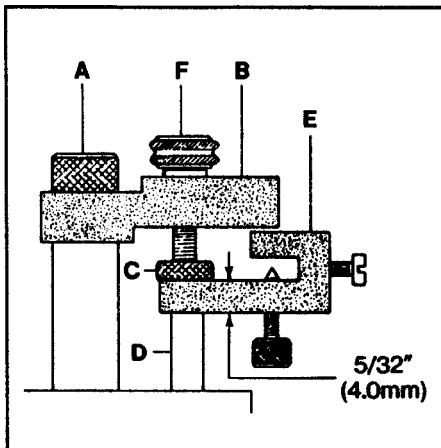

FIG. 8
Turn the handwheel until the needle bar is at its lowest point. Loosen presser bar regulating screw (A, Fig. 8) and insert needle bar setting block (B) under the head of the screw (A) with stop screw (C) above needle bar (D). Tighten screw (A).
The long portion of the looper clamp and height gauge (E, Fig. 8) laid on its side is the 5/32" (4.0mm) gauge used to set the distance between stop screw (C) and the top of the needle bar (D) at its lowest position. Tighten nut (F) to clamp stop screw (C) into place.